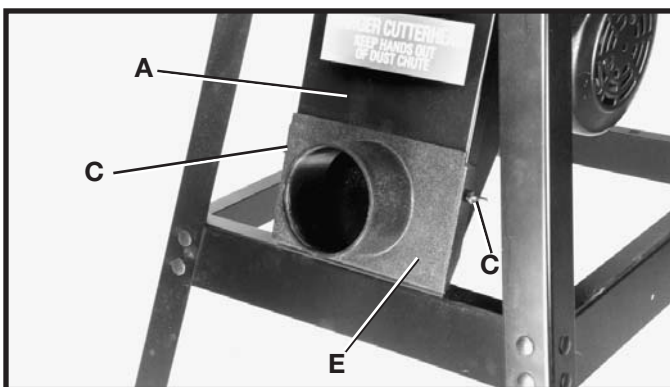

Fig. 15
2. Assemble adapter (E) Fig. 15, over dust chute (A). Align two holes in dust chute (A) with holes in adapter (E) and fasten with two wing screws (C) which were removed in **STEP 1**.